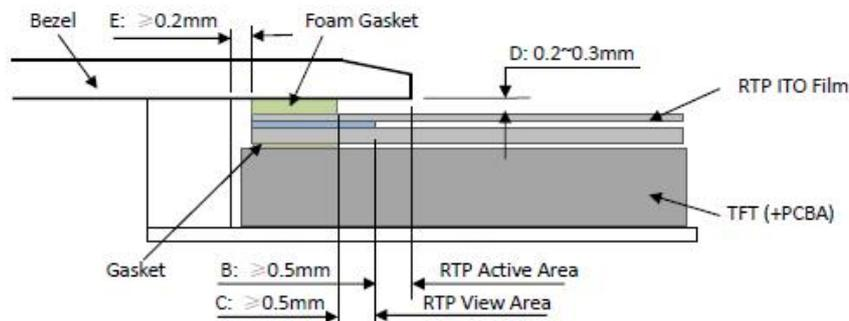

Figure 4
- It should bezel touching the RTP Active Area (A.A.) to prevent abnormal touch. It should left gap $D=0.2\sim 0.3\text{mm}$ in between. (Figure 4)
- Outer bezel design should take care about the area outside the A.A. Those areas contain circuit wires which is having different thickness. Touching those areas could de-form the ITO film. As a result bezel the ITO film be damaged and shorten its lifetime. It is suggested to protect those areas with gasket (between the bezel and RTP). The suggested figures are $B\geq 0.50\text{mm}$; $C\geq 0.50\text{mm}$. (Figure 4)
- The bezel side wall should keep space $E= 0.2 \sim 0.3\text{mm}$ from the RTP. (Figure 4)
- 为避免面框直接压在动作区 (A. A.) 上造成误动作, 面框与电阻触摸屏 (RTP) 之间应留有一定的空隙 $D=0.2\sim 0.3\text{mm}$ 之间. (附图 4)
- 设计面框时, 要注意用面框保护触摸屏四周的非保证操作区域, 因为布线区域在此处形成一台阶, 在此区域附近操作时 ITO Film 变形较大, 容易导致 ITO 损坏而降低寿命。为保护 RTP 和避免误操作, 在 RTP 与面框之间垫缓冲物 (Gasket), 我们建议设计面框应覆盖动作区的边缘, 面框边缘到 V. A. 区的距离 $B\geq 0.50\text{mm}$; 垫圈内边缘到 V. A. 区的距离 $C\geq 0.50\text{mm}$. (附图 4)
- 在设计面框与 RTP 组装时, 应考虑到面框内侧与 RTP 外侧的间距 $E\geq 0.2\text{mm}$. (附图 4)